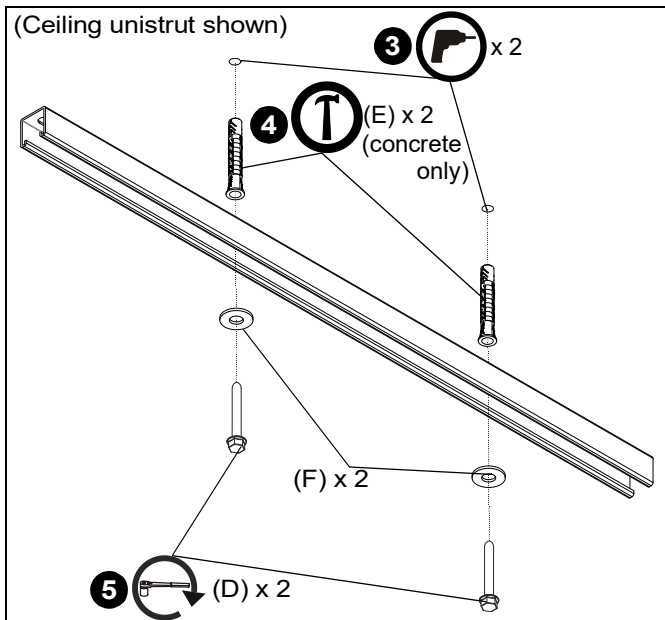

Figure 1
3. Drill two 3/8" (concrete) or 13/64" (wood) pilot holes at marked locations. (See Figure 1)
4. (Concrete only) Install two Ux10x60 anchors (E) into drilled holes. (See Figure 1)
5. Install two 5/16 x 2 1/2" hex head carriage screws (D) through 5/16" washers (F) and into drilled holes or anchors (E) to secure unistrut plate (A) to ceiling. (See Figure 1)